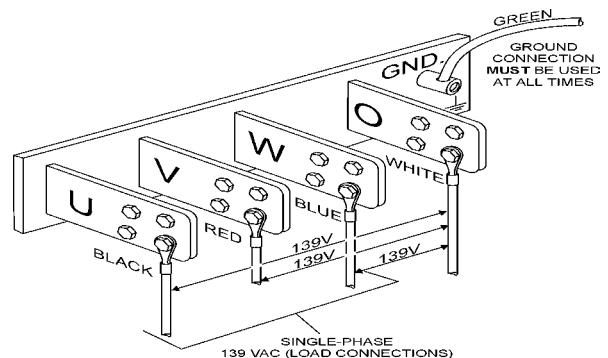

Figure 21. UVWO Terminal Lugs 1Ø139V Connections
3. Connect the load wires to the UVWO terminals as shown in Figure 21.